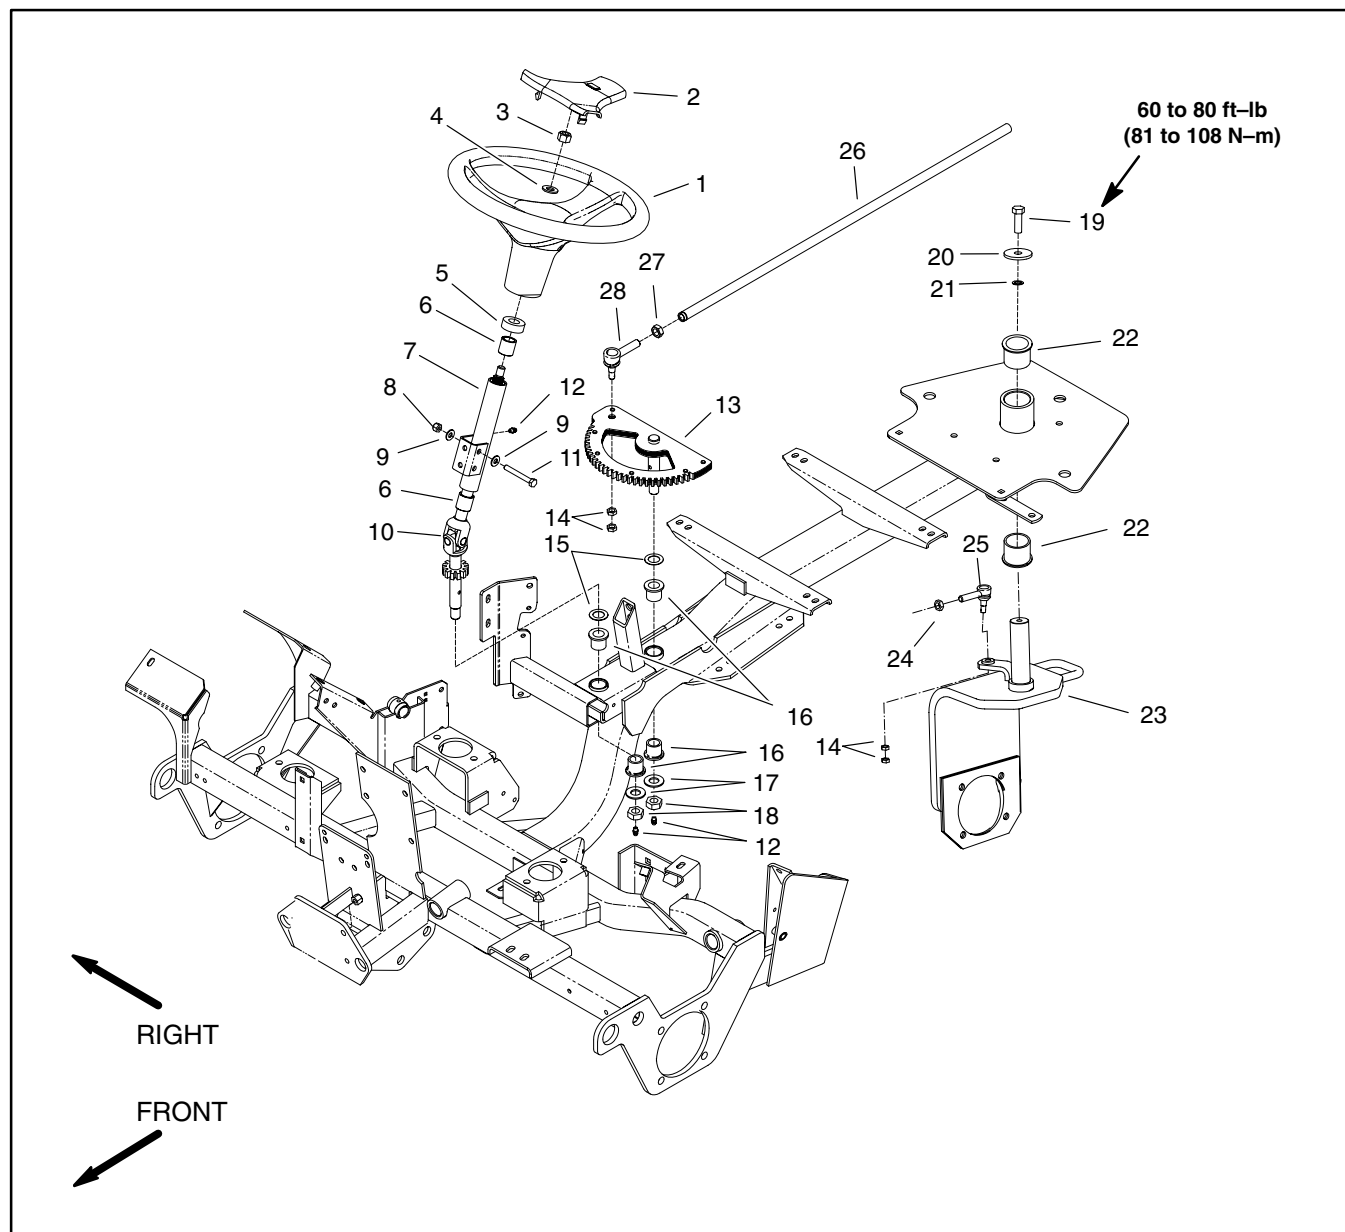

Figure 7
2. Disassemble steering assembly as needed using Figure 7 as a guide.
1. Assemble steering assembly using Figure 7 as a guide.